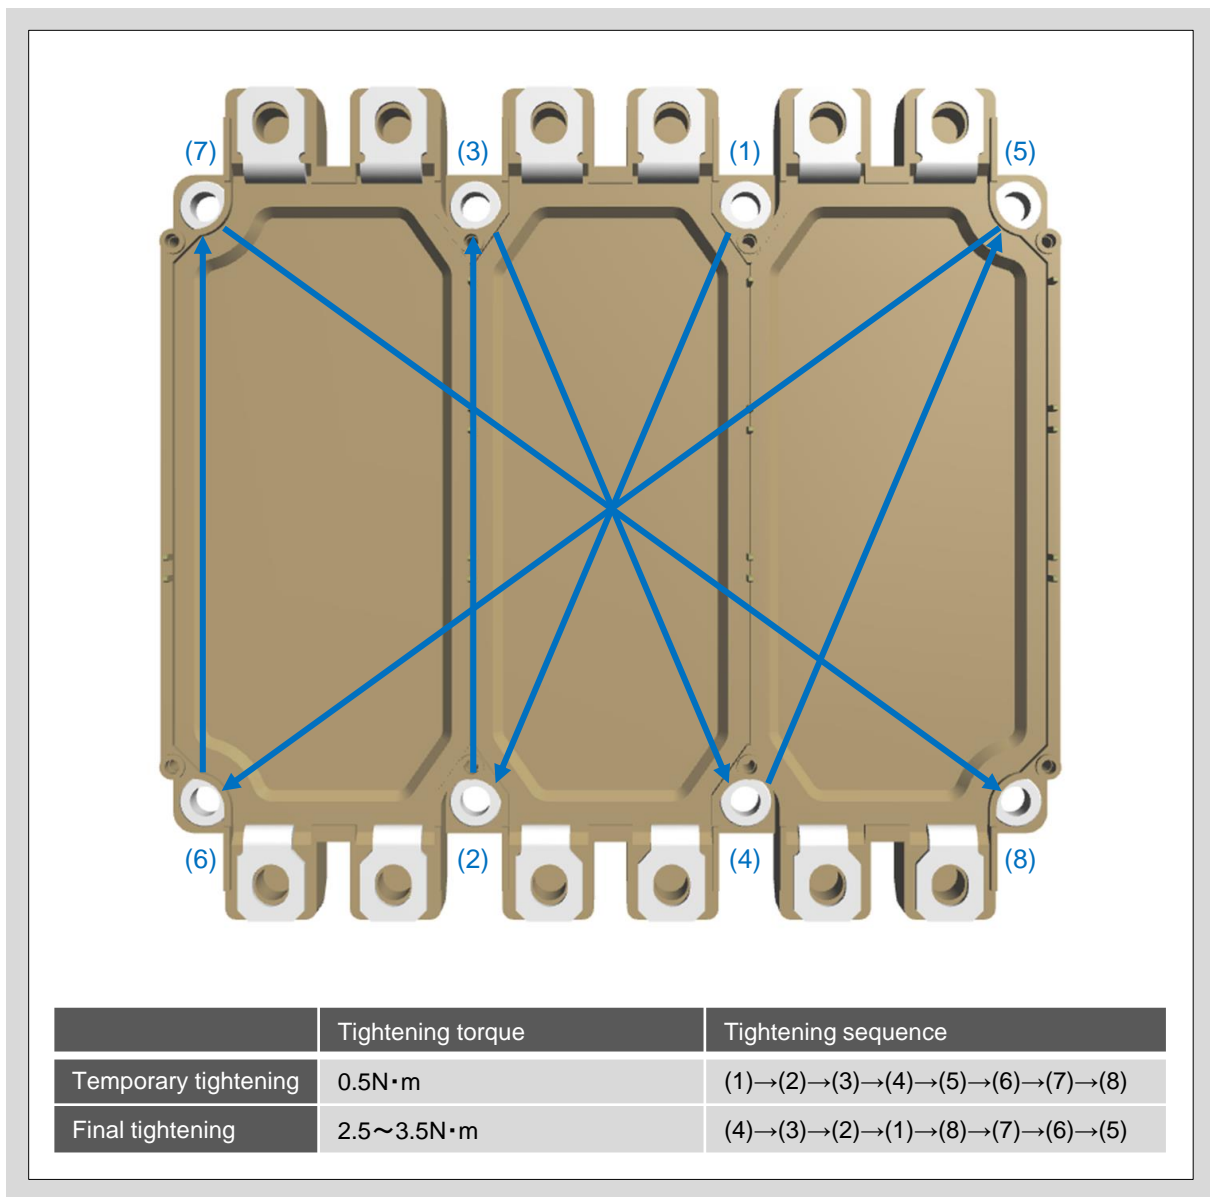

Figure 3. Tightening torque and tightening sequence
2. To fix the module with even force, first perform temporary tightening with $0.5\text{N}\cdot\text{m}$. Figure 3 shows the tightening sequence.